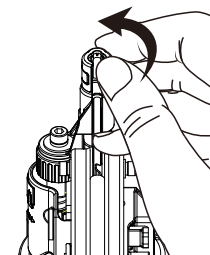

Figure 7
2. Push the non-marring pad hard as Figure 7 shows.